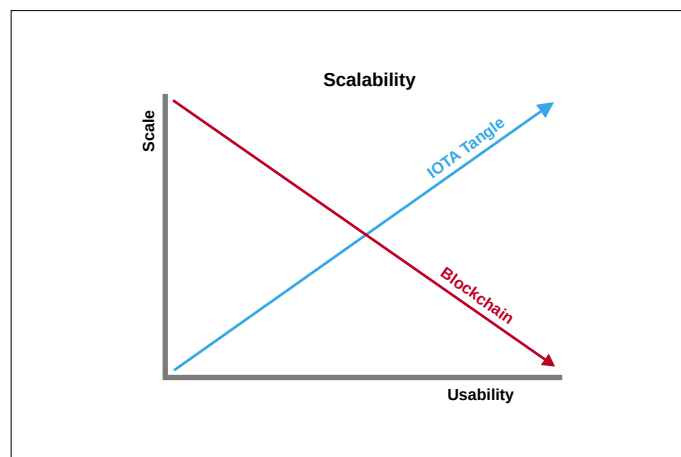

Figure 2. The IOTA tangle is vastly superior to a blockchain in terms of scalability [9].
The advantages are clearly evident: blockchains have enormous difficulties with scaling, but the IOTA tangle does not have any such bottlenecks that limits the maximum transaction speed. In fact, the performance of the tangle increases with the number of transactions that are made (**Figure 2**).
- [9] Figure 2 image source: <https://steemit.com/german/@moodledidoodledi/die-internet-der-dinge-iot-revolution-iota>